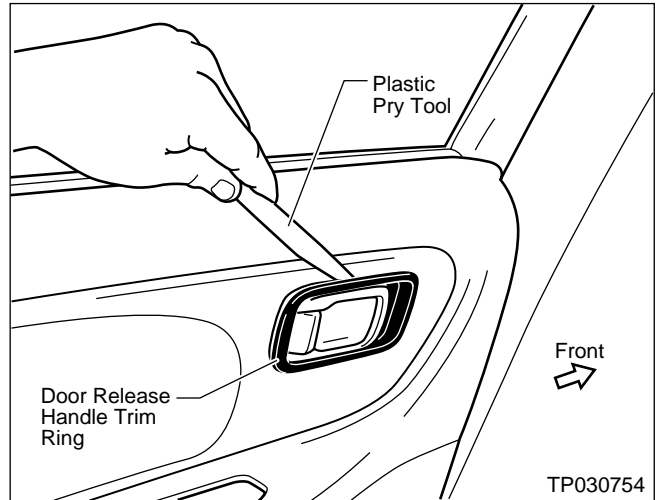

Figure 15
3. Use a Plastic Pry Tool to carefully remove the Door Release Handle Trim Ring (see Figure 15).